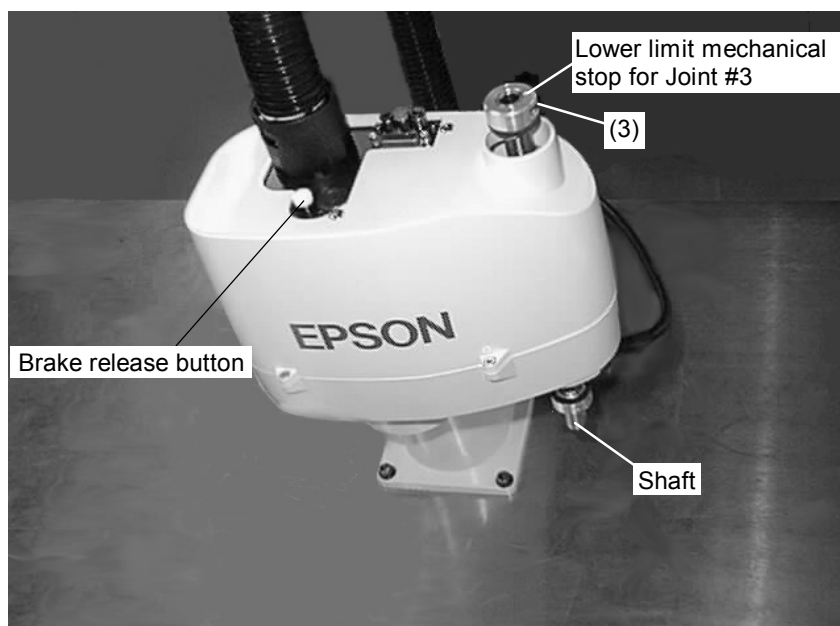

Figure 30. Mechanical stop for Joint #3
(2) Turn OFF the controller.
(3) The lower-limit mechanical stop is a split muff coupling fastened to the top of the shaft. Loosen the coupling's M3×10 bolt. (See Figure 30.)